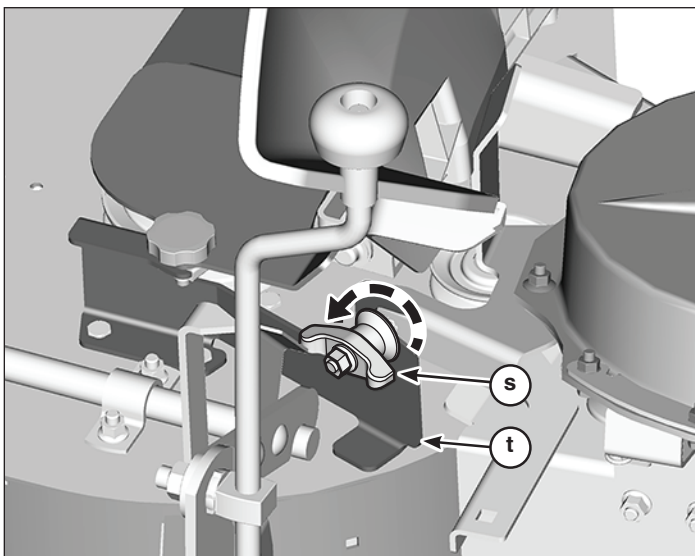

Figure 35
8. Loosen wing nut (s, Figure 35) on cover latch bracket (t).